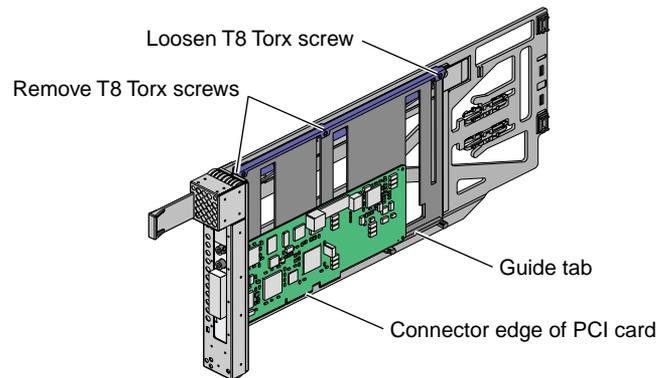

Figure 14-5 Mounting Half-height Card in Carrier
- a. Remove the two screws from the carrier guide bar, as shown in Figure 14-5.
- c. Place the half-height PCI card in the carrier so that the connector edge of the card rests against the lower guide tab of the carrier (see Figure 14-5).